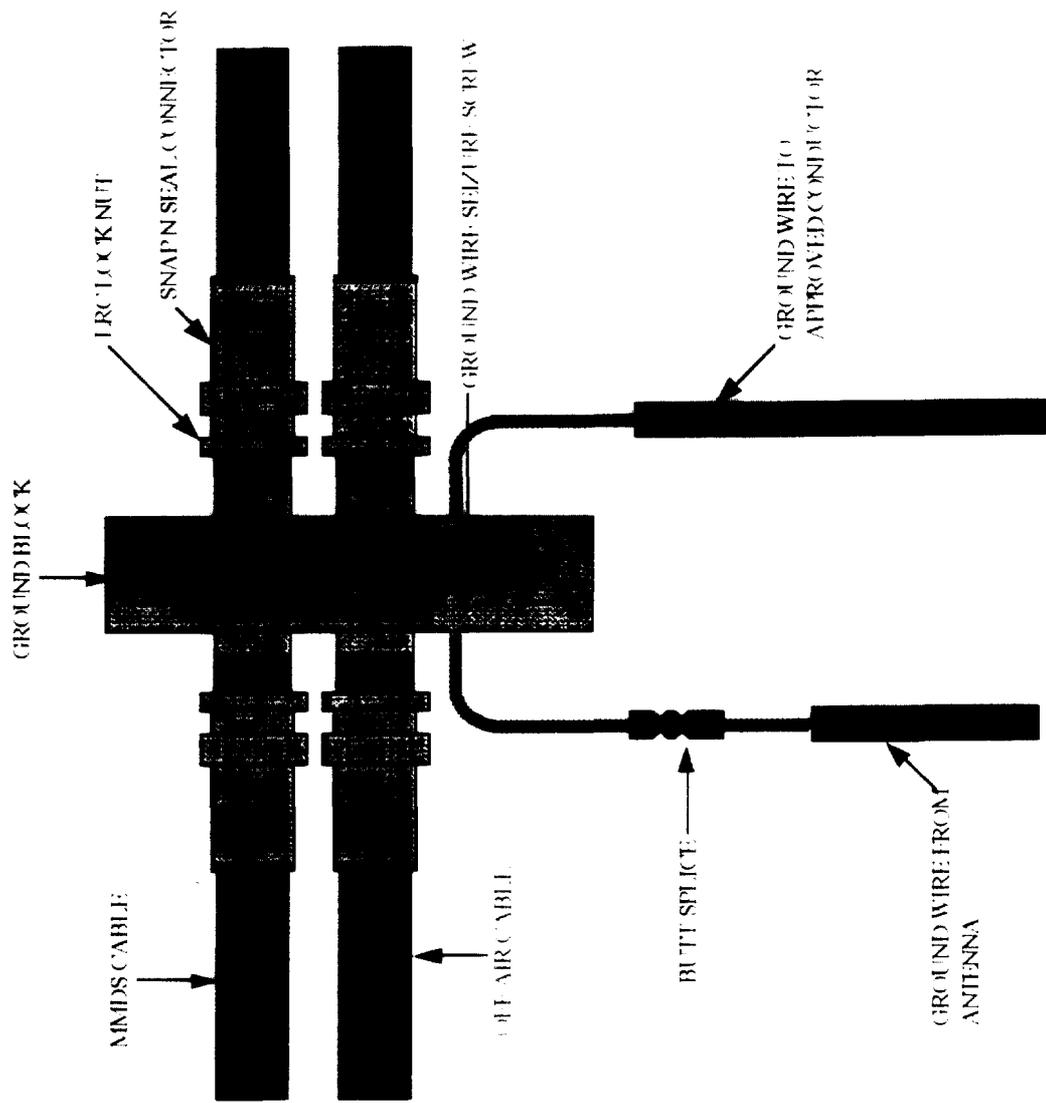

Fig.11
- **To ground the cable for a single outlet, install a ground block (See Fig 11). On multiple outlet installs the ground wire is to be attached to the ground lug on the splitter. The other end of the ground wire is attached to the nearest approved grounding conductor.**